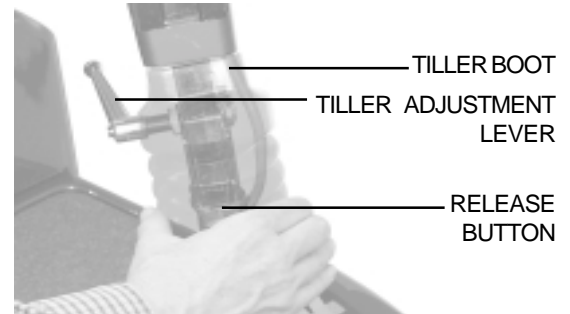

Figure 8A. Adjusting The Tiller Angle
1. Turn the tiller adjustment lever counterclockwise until it is loose. If the tiller adjustment lever comes in contact with the tiller basket, pull it outward, turn it clockwise, and release it. Continue to loosen until the tiller is able to move. See figures 8A and 8B.
8. Turn the tiller adjustment lever counterclockwise until it is loose. Pull the rubber boot upward to expose the tiller release buttons. See figure 8A.